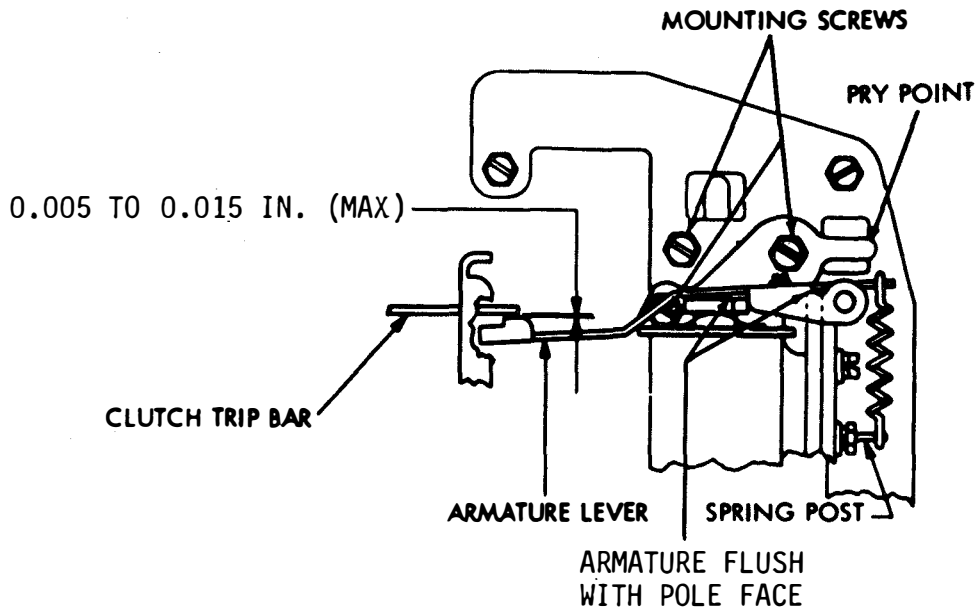

Figure 6-441. Mounting Bracket (Attracted) and Armature Hinge
(a) Refer to Figure 6-441.
- (a) Refer to Figure 6-441.
(5) Contact Gap.